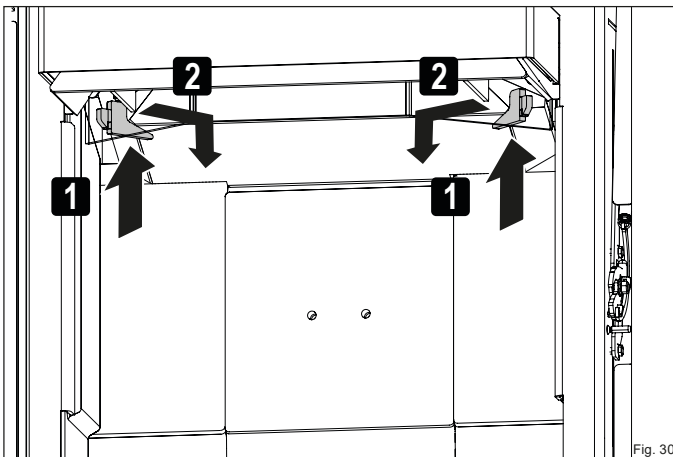

Fig. 30
- ▶ Carefully release the firebrick retainers (Fig. 30).